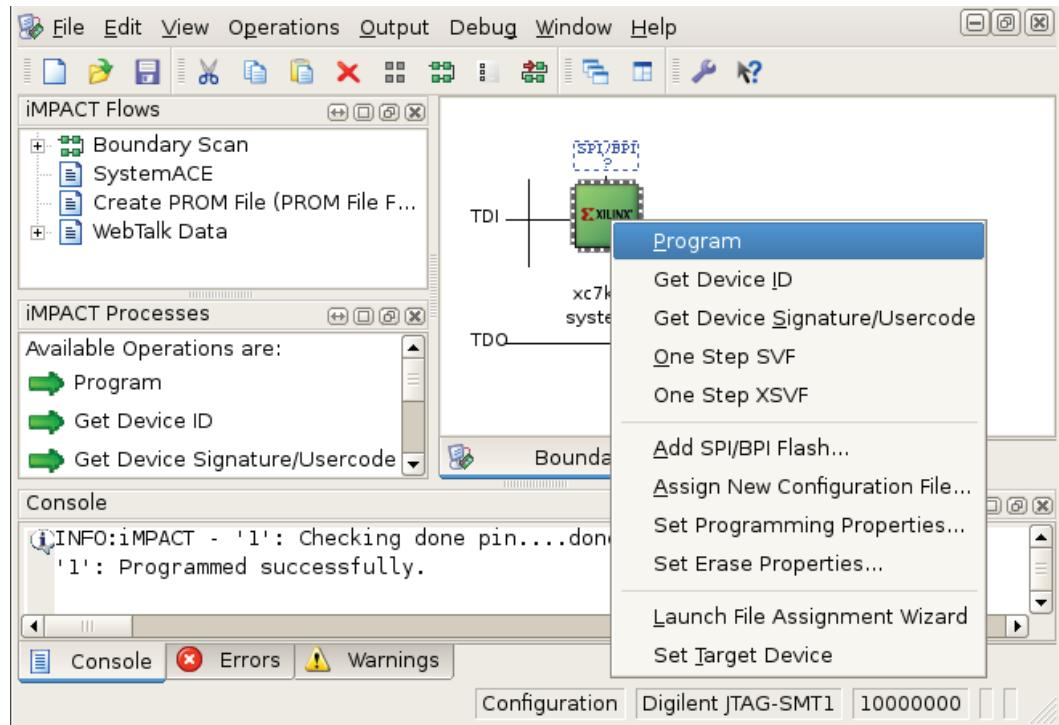

Figure 16: Programming the FPGA
9. Right-click the **xc7k325t** device and select **Program** (Figure 16).